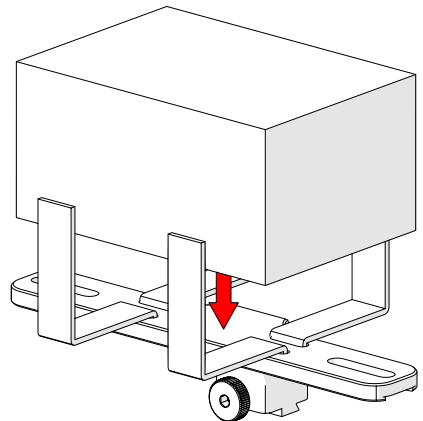

Fig. 76 - Place preamp and wrap velcro
2. Centre and place the preamp on the bracket wrapping the velcro around the preamp (Fig. 76).